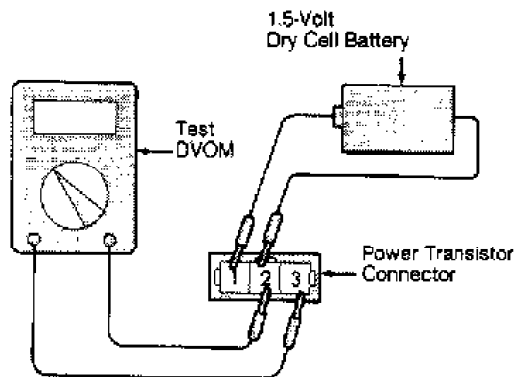

Fig. 6: Testing Power Trans (Colt Vista, Galant, Montero, Pickup & Ram-50)
2) Using a 1.5-volt dry cell battery, connect positive end of 1.5-volt battery to power transistor terminal No. 1 and negative end to terminal No. 2. DVOM should now read continuity at power transistor terminals No. 2 and No. 3. Replace power transistor if it does not test as described. See Fig. 6.